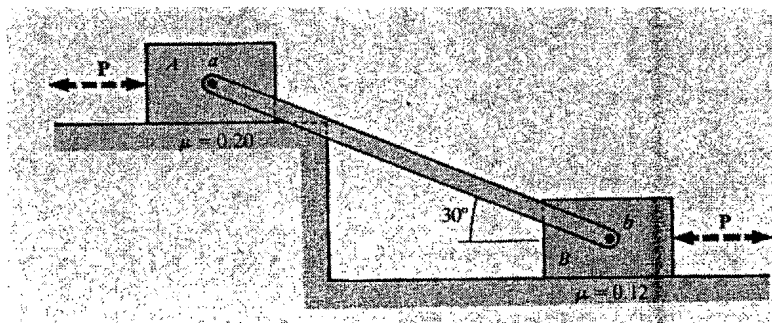

Figure 4
- b) The two blocks in Figure 4 are connected by a rod of negligible weight. Each blocks weighs 100 lb .